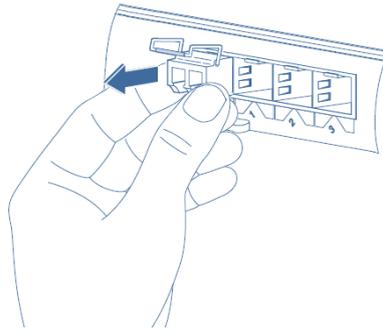

Figure 9 : Removing an SFP+ Module from the port
4. Grasp the module between your thumb and index finger and carefully remove it from the port, as shown in Figure 9.